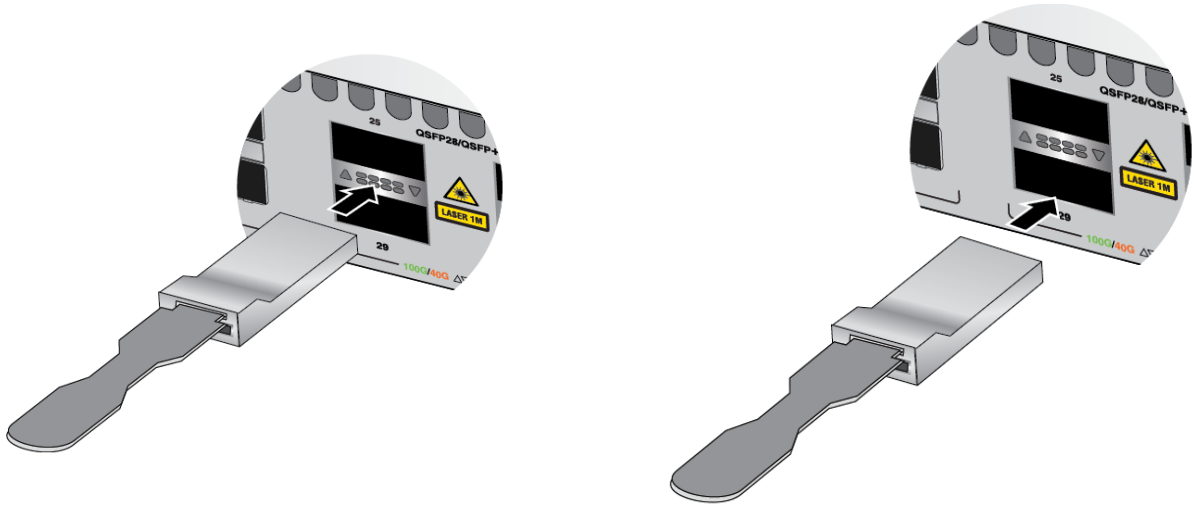

Figure 131. Installing 100Gbps QSFP28 Transceivers in Base Ports 25, 29, 33, 37
- ❑ 100Gbps QSFP28 transceivers for ports 25 to 37: refer to Figure 131.